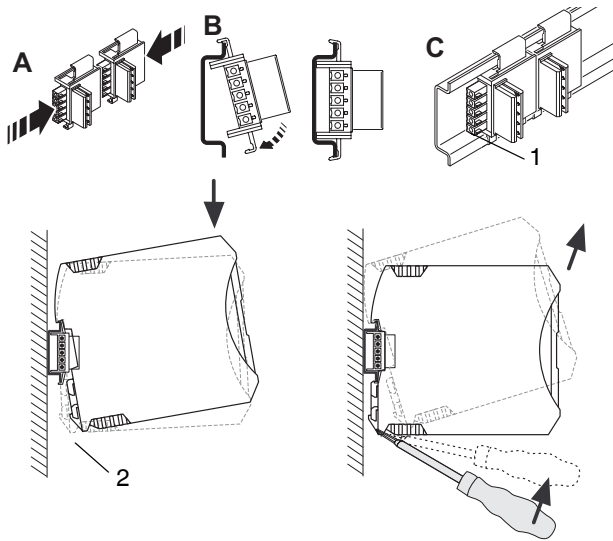

Figure 4 Assembly and removal
- First insert the ME 17.5 TBUS DIN rail connector (included in the scope of supply) into the DIN rail (see A – C, Figure 4).